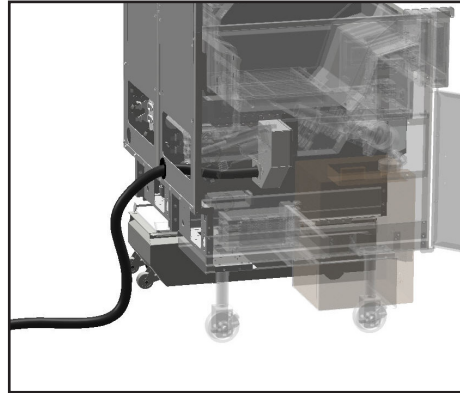

Figure 2.6.2 - Insert flexible conduit through cabinet as shown to prevent contact with moving parts.
2. Insert power cable/conduit through hole in fryer cabinet, Figure 2.6.2. Use care when routing power cable/conduit through the fryer to not interfere with actuator movement.